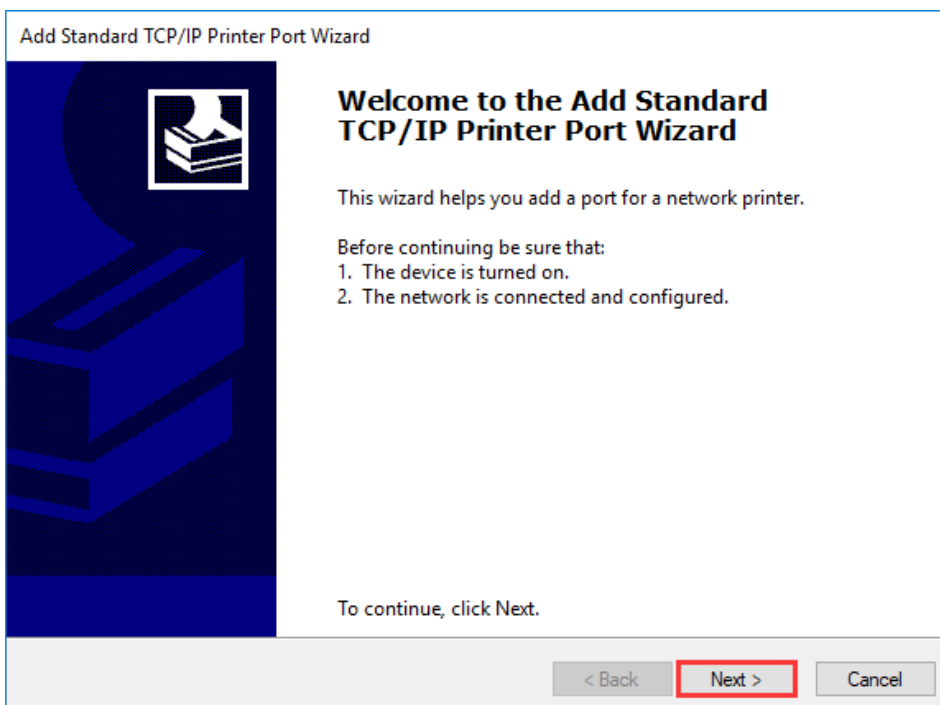

Figure 2-31 Add Standard TCP/IP Printer Port Wizard
- 6. The “Add Standard TCP/IP Printer Port Wizard” screen displays, click “Next”, as shown in Figure 2-31.